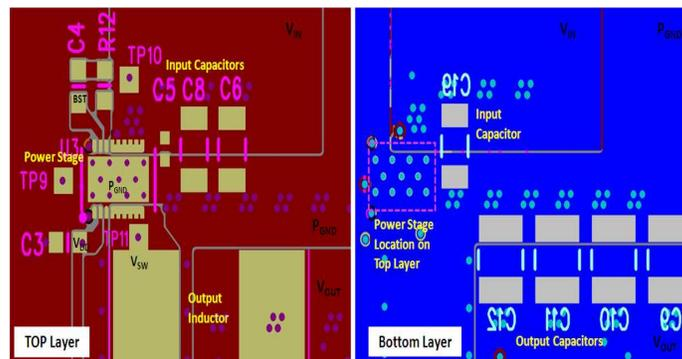

Figure 17. Recommended PCB Layout (Top Down View)
- The placement of the input capacitors relative to  $V_{IN}$  and  $P_{GND}$  pins of CSD97394Q4M device should have the highest priority during the component placement routine. It is critical to minimize these node lengths. As such, ceramic input capacitors need to be placed as close as possible to the  $V_{IN}$  and  $P_{GND}$  pins (see Figure 17). The example in Figure 17 uses 1 x 1 nF 0402 25V and 3 x 10 μF 1206 25 V ceramic capacitors (TDK part number C3216X5R1C106KT or equivalent). Notice there are ceramic capacitors on both sides of the board with an appropriate amount of vias interconnecting both layers. In terms of priority of placement next to the Power Stage C5, C8 and C6, C19 should follow in order.
- Use the smallest drill size allowed in your design. The example in Figure 17 uses vias with a 10 mil drill hole and a 16 mil capture pad.